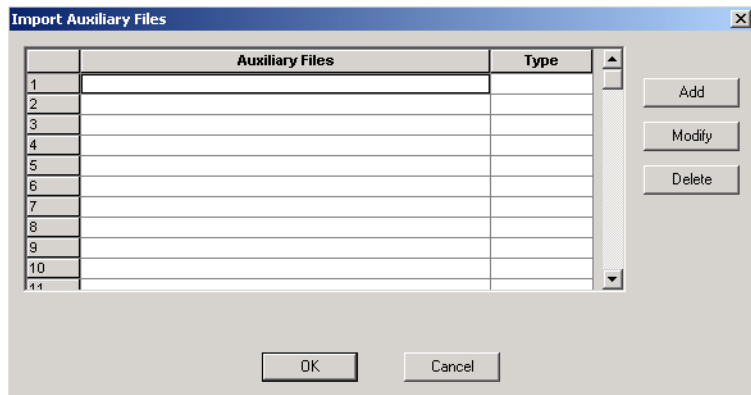

Figure 7-5. Import Auxiliary Files Dialog Box
1. **From the File menu, click *Import Auxiliary Files*.** The Import Auxiliary Files dialog appears, as shown in Figure 7-5.